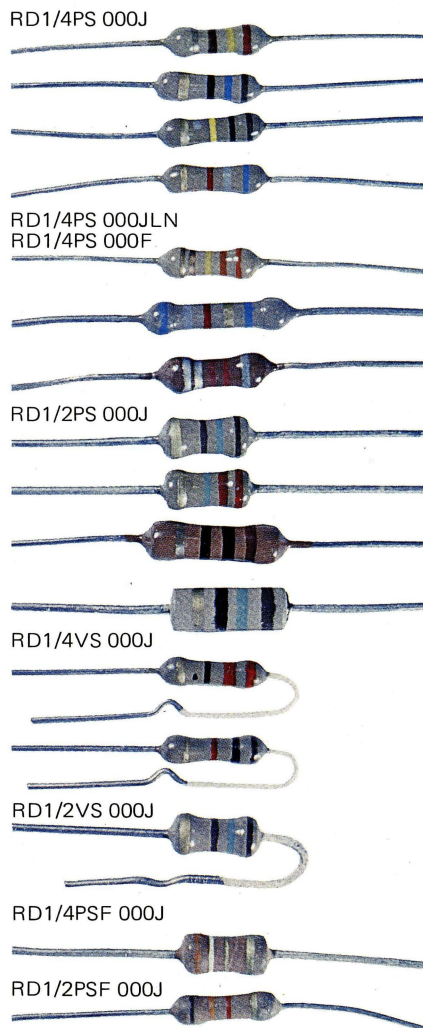

Fig. 2 Carbon film resistors in current use
(1) Carbon film resistors (RD), or carbon resistors as they are more commonly known, are supplied to Pioneer by two different manufacturers. Please note, therefore, that the shape and markings may differ with each manufacturer, and (2) resistors of the same power rating may not always be the same size. (3) The lead form type mainly used at Pioneer are PS and VS (see Fig. 2). (4) Nonflammable resistors are marked with an F and have a non-glossy reddish brown coating. These are supplied by one manufacturer only. (5) The first two bands (yellow and